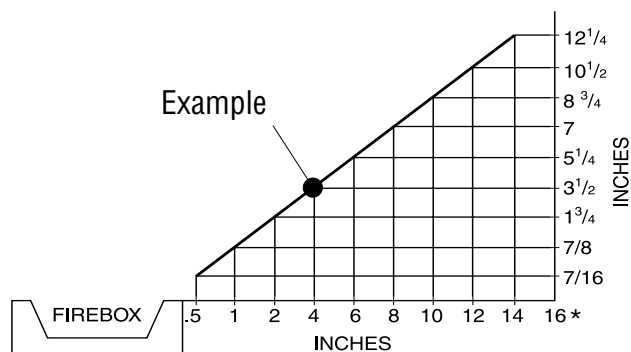

Figure 4 - Minimum Clearance for Combustible to Wall
A. Clearances from side of fireplace cabinet to any combustible material and wall should follow diagram in **Figure 4**.
Example: The face of a mantel, bookshelf, etc. is made of combustible material and protrudes 3-1/2" from the wall. This combustible material must be 4" from the side of the fireplace cabinet (see **Figure 4**).